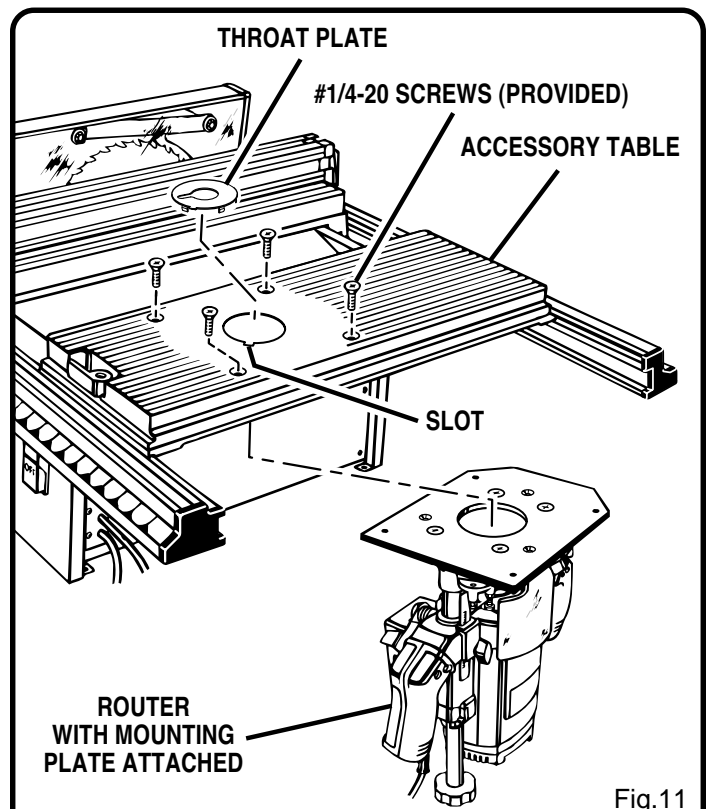

Fig.11
- Place the router and the mounting plate under the accessory table. See Figure 11.